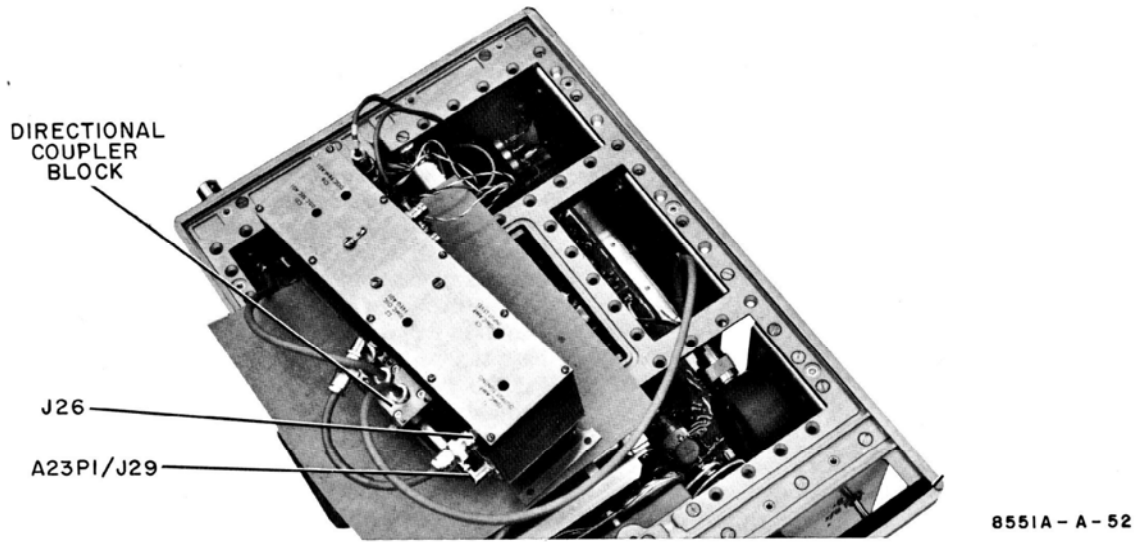

Figure 5-14. Lock Assembly A15 Ready for Adjustment
- Position instrument on its left side and phase lock assembly on a piece of cardboard (or other insulating material) on the side frame of instrument (see Figure 5-14). Reconnect Cables W28 and W31 to Connectors J27 and J30.
aq. If necessary, reposition the coupling loop of A23DC1 Directional Coupler (see Figure 5-14) for proper signal amplitude (increase coupling to increase signal). Coupler block is pulled in (to increase coupling) by four corner screws and pushed out by four corner setscrews. Since the two sets of screws work against each other, loosen one set before tightening the other. After adjustment, use a gauge (such as a drill bit) to be sure spacing between the block and assembly body is the same all around.